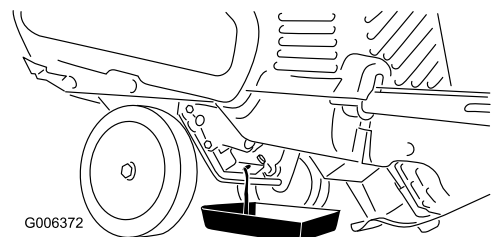

Figure 25
3. Place an oil drain pan under the oil drain plug, remove the oil drain plug, and tip the snowthrower backward and drain the used oil in the oil drain pan (Figure 25).